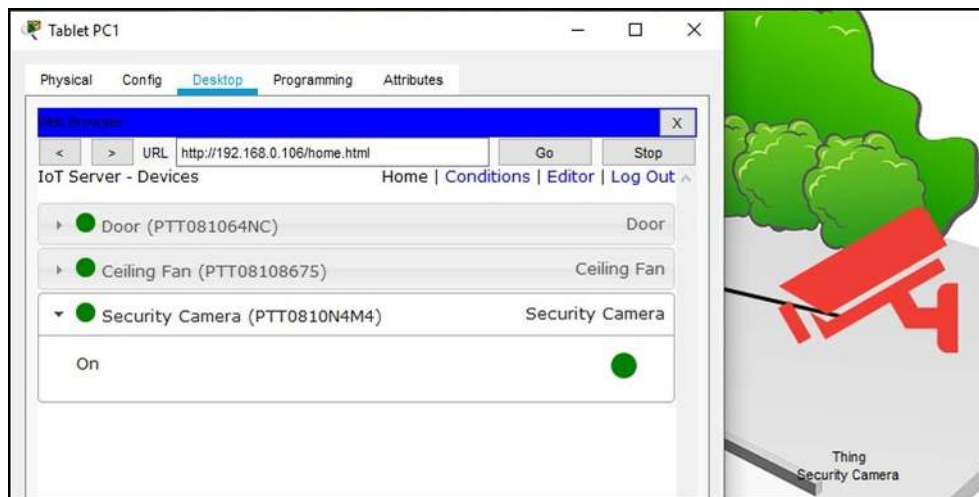

Figure 12.16: Activating the Security Camera in Packet Tracer; holding Alt switches it to the “activated” state.
- The camera’s icon should switch from *LOW* (inactive) to *HIGH* (activated). In many cases, the Registration Server interface updates to show a green dot or an “activated” status (Figure 12.16).